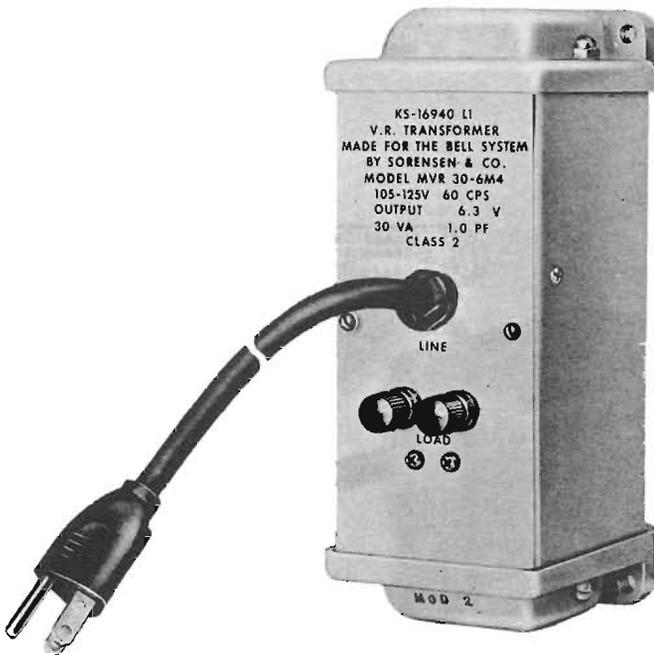

Fig. 6 — KS-16940, List 1 V.R. Transformer
8.01 The KS-16940, List 1 V.R. transformer (Fig. 6) is primarily intended for use as centralized dial-light power source to provide regulated power for dial lights and night lights on telephones in motels and small hotels. It will power 30 dial-light telephone sets. This transformer is self-protecting. See Table B for loop limits.